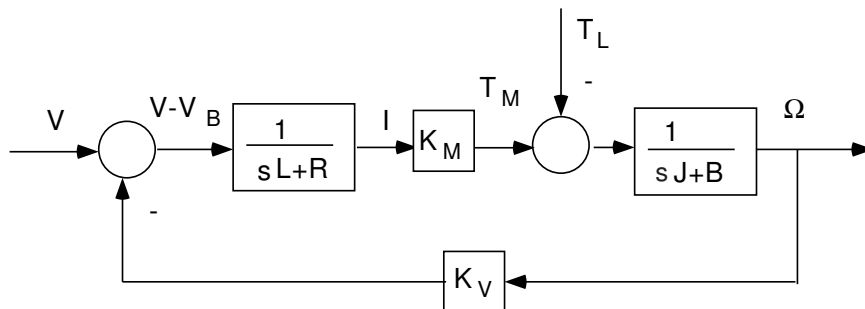

Figure 1: DC Motor
2. Consider a DC motor, as shown in Figure 1. The DC motor in the (2008) EECS 461 lab has parameter values: $K_M = 0.0389$ N-m/A, $K_V = 0.0388$ V/(rad/sec), $R = 1.23$ ohms, $L = 0.00034$ H, $J = 6.55 \times 10^{-6}$ N-m/(rad/sec)², and $B = 0.00131$ N-m/(rad/sec).
3. Consider again the DC motor in Figure 1. We showed in class that the transfer functions from V to Ω and T_M are given by